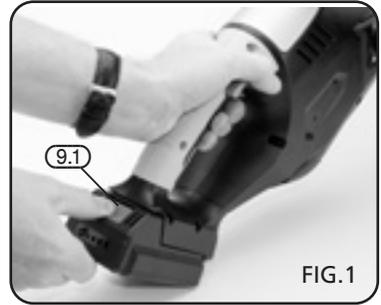

FIG.1
8.1 BATTERY CHARGING - FIGS. 1 - 4
To charge the battery pack, it must first be removed from the hedge trimmer. To release the battery pack, press the battery release button (9.1) and gently pull the battery pack from the hedge trimmer. (Fig.1).